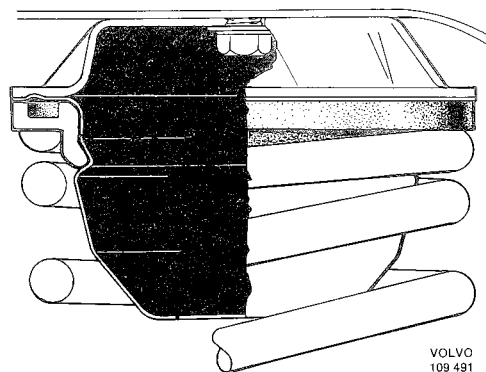

Fig. 7-6. Rear spring seat
1. Check that the rubber spring support is correct (Fig. 7-6).